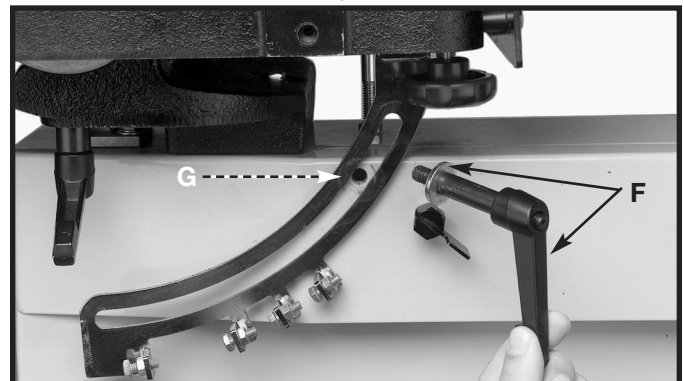

Fig. 8
6. Thread lock knob and washer (F) Fig. 8, into the tapped hole (G) on the side of the saw, that was removed in **STEP 2**.